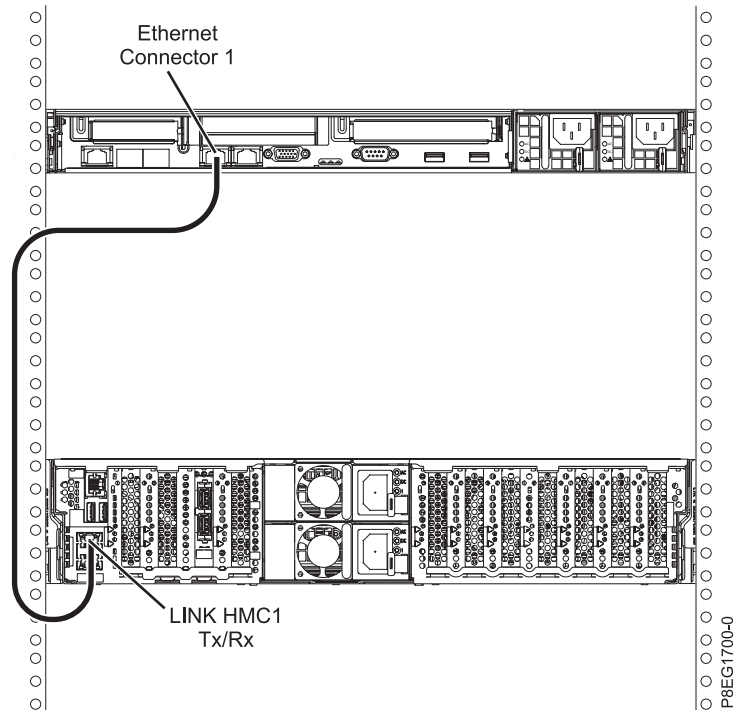

Figure 16. Attaching the HMC to the managed system
1. If you want to directly attach your HMC to the managed system, connect **Ethernet Connector 1** on the HMC to the **HMC1** port on the managed system. See Figure 16 on page 13.